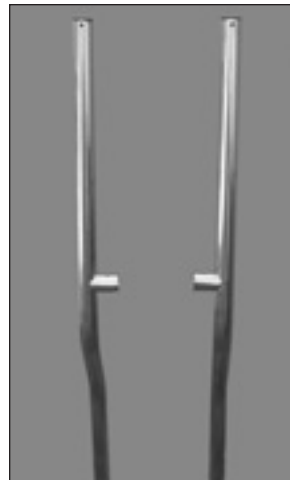
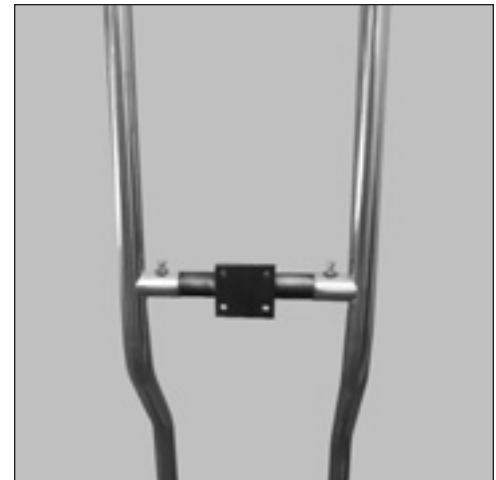

Fig. 6
Fig. 7
STEP TWO: Attach the cross brace to the support posts (see Fig. 6) by inserting the cross brace inside the 2 support post stubs. (See Fig. 7) The square 4-hole plate on the cross brace faces the pool. Insert the two (2) 3/8" bolts through the holes adding a flat washer top and bottom of cross piece and then lock washer and nut. Hand tighten only.